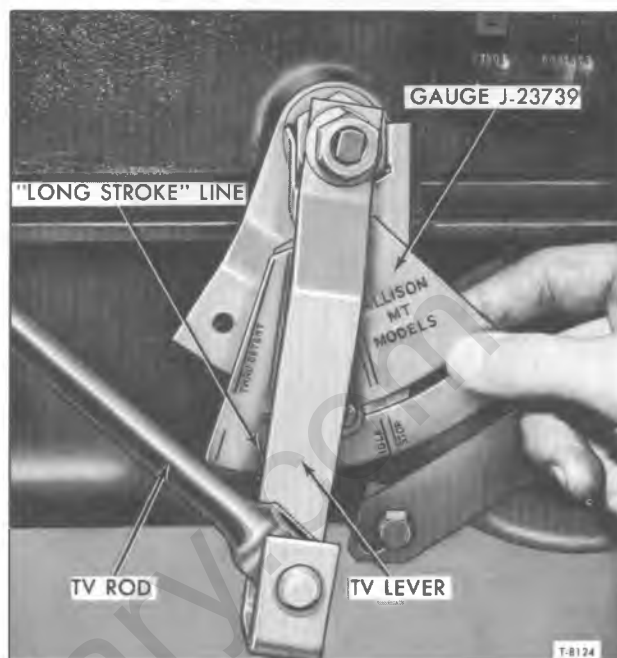

Figure 13—Checking for Proper TV Linkage Adjustment at Full Throttle
10. Have assistant depress accelerator pedal to full throttle (DETENT). Referring to figure 13, TV lever should be aligned with "LONG STROKE" line on gauge.
10. Return cab to normal ride height. Have assistant depress accelerator pedal to full throttle (DETENT). Referring to figure 13, TV lever should be aligned with "LONG STROKE" line on gauge.